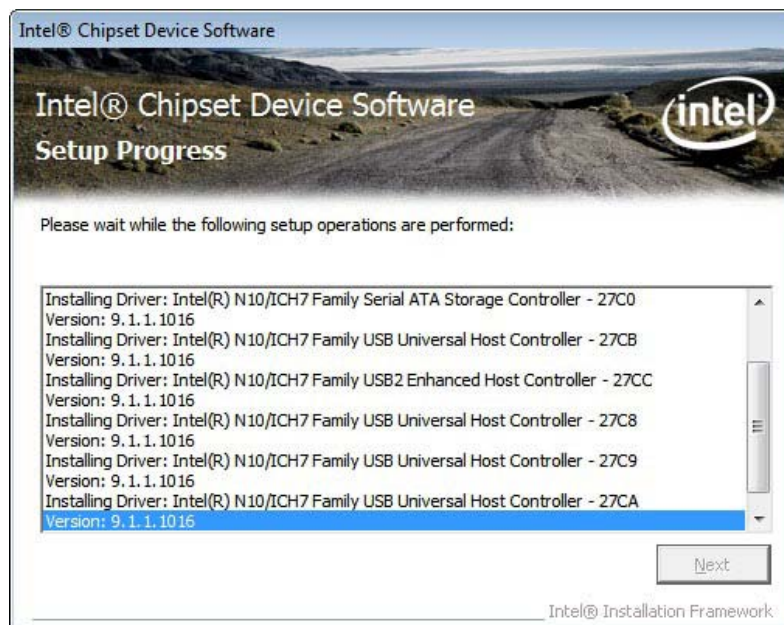

Figure 6-6: Chipset Driver Setup Operations
Step 14: Setup Operations are performed as shown in Figure 6-6.